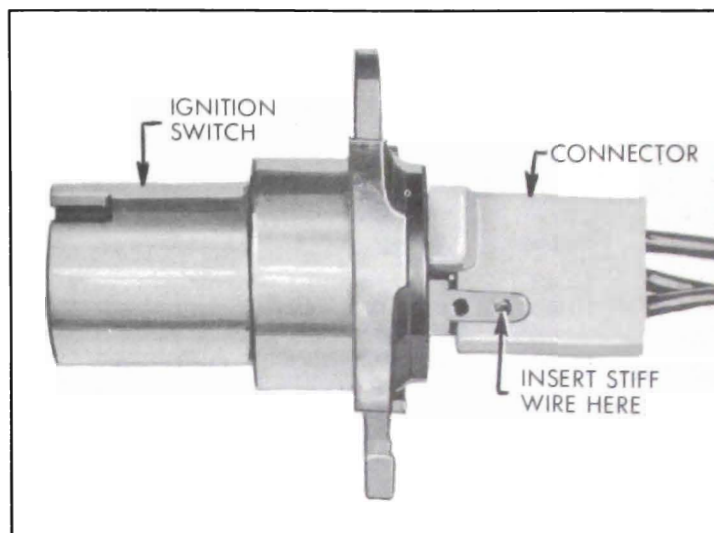

Figure 10-49—Ignition Switch and Connector—Top View
3. Unclip connector from switch by inserting a piece of stiff wire in the small hole in top of connector. Apply pressure to depress terminal locking tab and connector can be pulled off the three switch terminals. See figure 10-49.